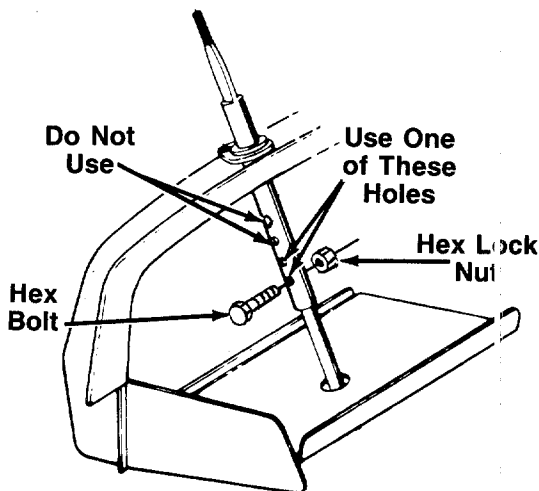

FIGURE 1.
1. For shipping purposes, the upper steering shaft is pushed all the way down over the lower steering shaft. Pull the upper steering shaft up. The holes in the shaft provide steering wheel height adjustment. When securing the two halves of the steering shaft, select one of the two lower holes in the upper shaft as shown. **Do not** use the two upper holes. Secure with hex bolt and hex lock nut. See figure 1.